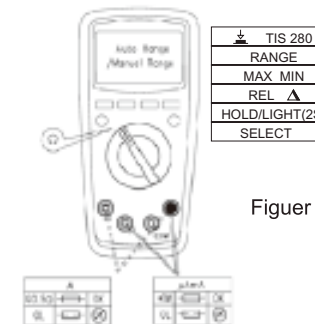

Figure 4b
- *. By using the resistance measurement function, it is allowed to make self-checking of the built-in fuse, see (Figure 4b).